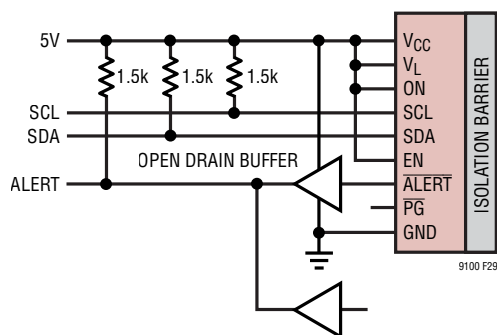

Figure 29. Open Drain Buffer for Shared ALERT Bus
Any of eight distinct I²C bus addresses are selectable using the three-state pins ADR0 and ADR1, as shown in Table 2. Note that the configuration of ADR0 = L and ADR1 = H is used to enable the single-wire broadcasting mode. For the eight I²C bus addresses, address bits b7, b6 and b5 are configured to (001) and the least significant bit b0 is the R/W bit. In addition, the LTM9100 will respond to two special addresses. Address (0011 111) is a mass write used to write to all LTM9100s, regardless of their individual address settings. Address (0001 100) is the SMBus alert response address. If the LTM9100 is pulling low on the $\overline{\text{ALERT}}$ pin, it will acknowledge this address using the SMBus alert response protocol. Note, if multiple LTM9100's are configured to share a single ALERT bus then the addition of an open drain buffer is necessary, see Figure 29.